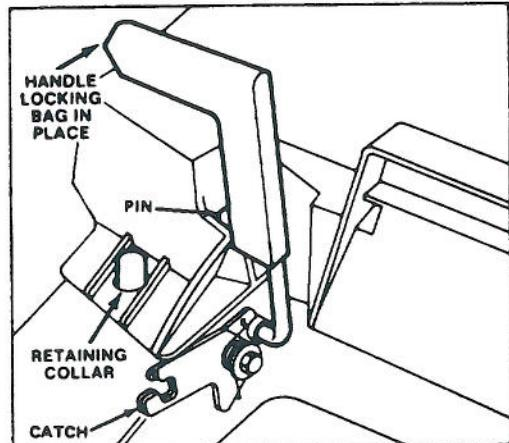

Figure 11
3. INSTALLING BAG — Slide hole in bag frame onto retaining collar on housing (Fig. 11) and set rear of bag frame onto lower handle.
4. Pull chute door handle forward until pin clears catch and move handle rearward until pin locks in bag notch (Fig. 11). Chute door in mower housing is now open. It may be necessary to push down on top right of bag door to release handle locking pin from catch.